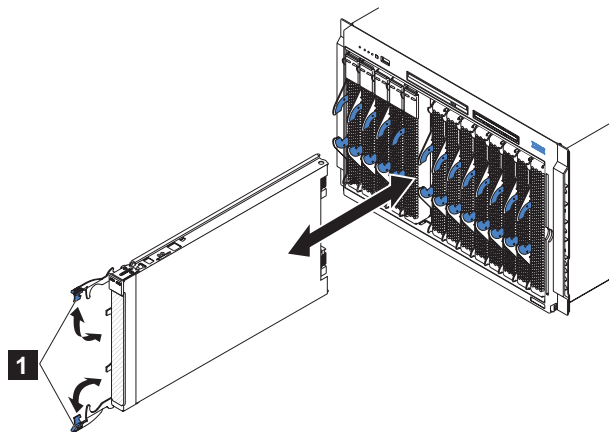

Figure 23. Installing the blade server in a BladeCenter unit
5. Verify that the release handles on the blade server are in the open position (perpendicular to the blade server, as shown in **1** in Figure 23 on page 46).